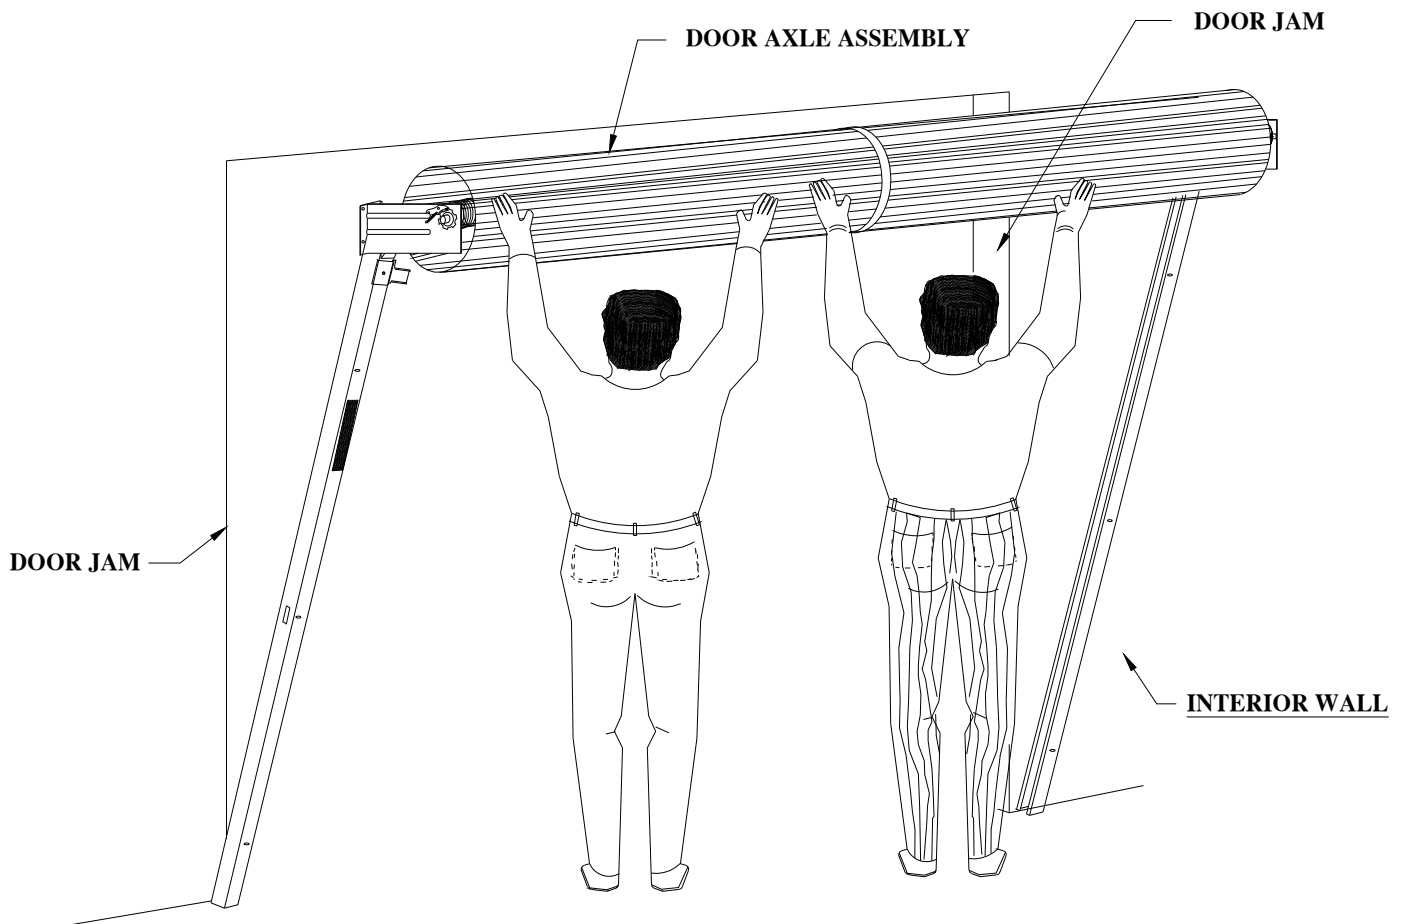

**Figure 3**
**STEP 4.** Slide DOOR BRACKET ASSEMBLY onto the end of the AXLE as shown in Figure 3. Slide AXLE WASHER in place over AXLE and install COTTER PIN into AXLE through the hole provided to
secure the DOOR BRACKET ASSEMBLY. (NOTE: Locate DOOR EXTRUSION as shown in Figure 3 for STEP 5). The location of the door extrusion is critical for proper mounting and spring tension.